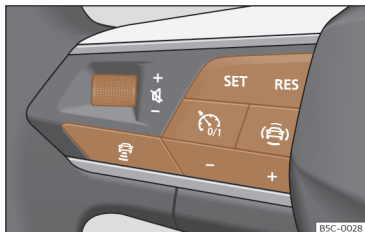

Fig. 161 On the multifunction steering wheel: buttons to operate the ACC
Your vehicle has ACC if it has a configuration menu in the infotainment system»» page 91 and if it has the ACC function buttons on the multifunction steering wheel»» Fig. 161.
- To start regulation, press the button **SET** >>> **Fig. 161**.
To program the speed, press the + or - >>> **Fig. 161** buttons to the desired speed. The
- Press the button and then the button + or - >>> **Fig. 161**.